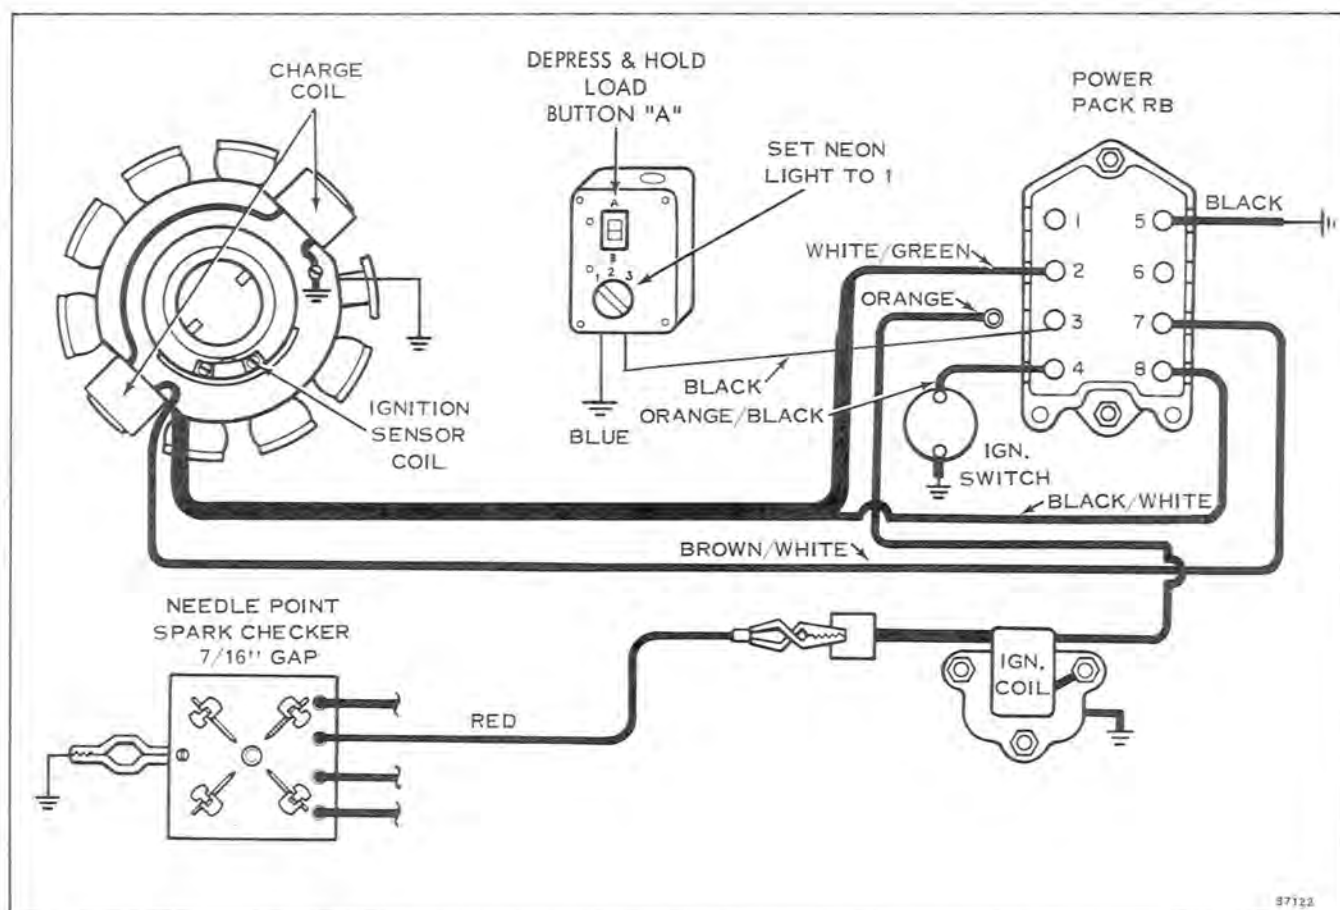

Figure 7-14
- B. Use neon tester S80 or M80. Set rotary switch on tester to position #1. Hook tester black lead to Power Pack RB terminal #3, and tester blue lead to engine ground. See Figure 7-14.
- D. Hold load button "A" and crank engine with starter (or recoil starter) and observe neon light. See Figure 7-14.